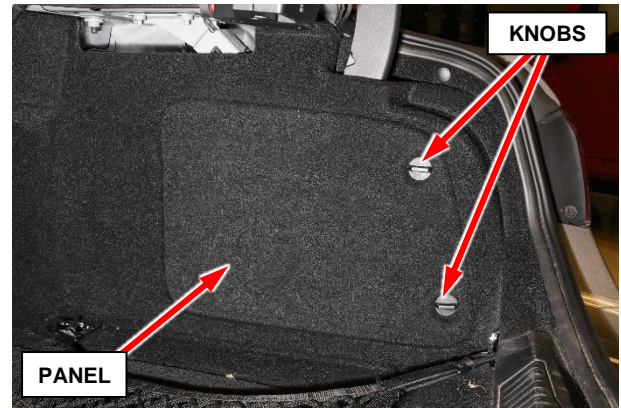

Figure 1 – Battery Access Panel
2. Rotate the knobs $\frac{1}{4}$ turn on the right-side trim panel and remove the battery access panel (Figure 1).
28. Align the battery access panel to the right-side trim opening and rotate the knobs $\frac{1}{4}$ turn (Figure 1).